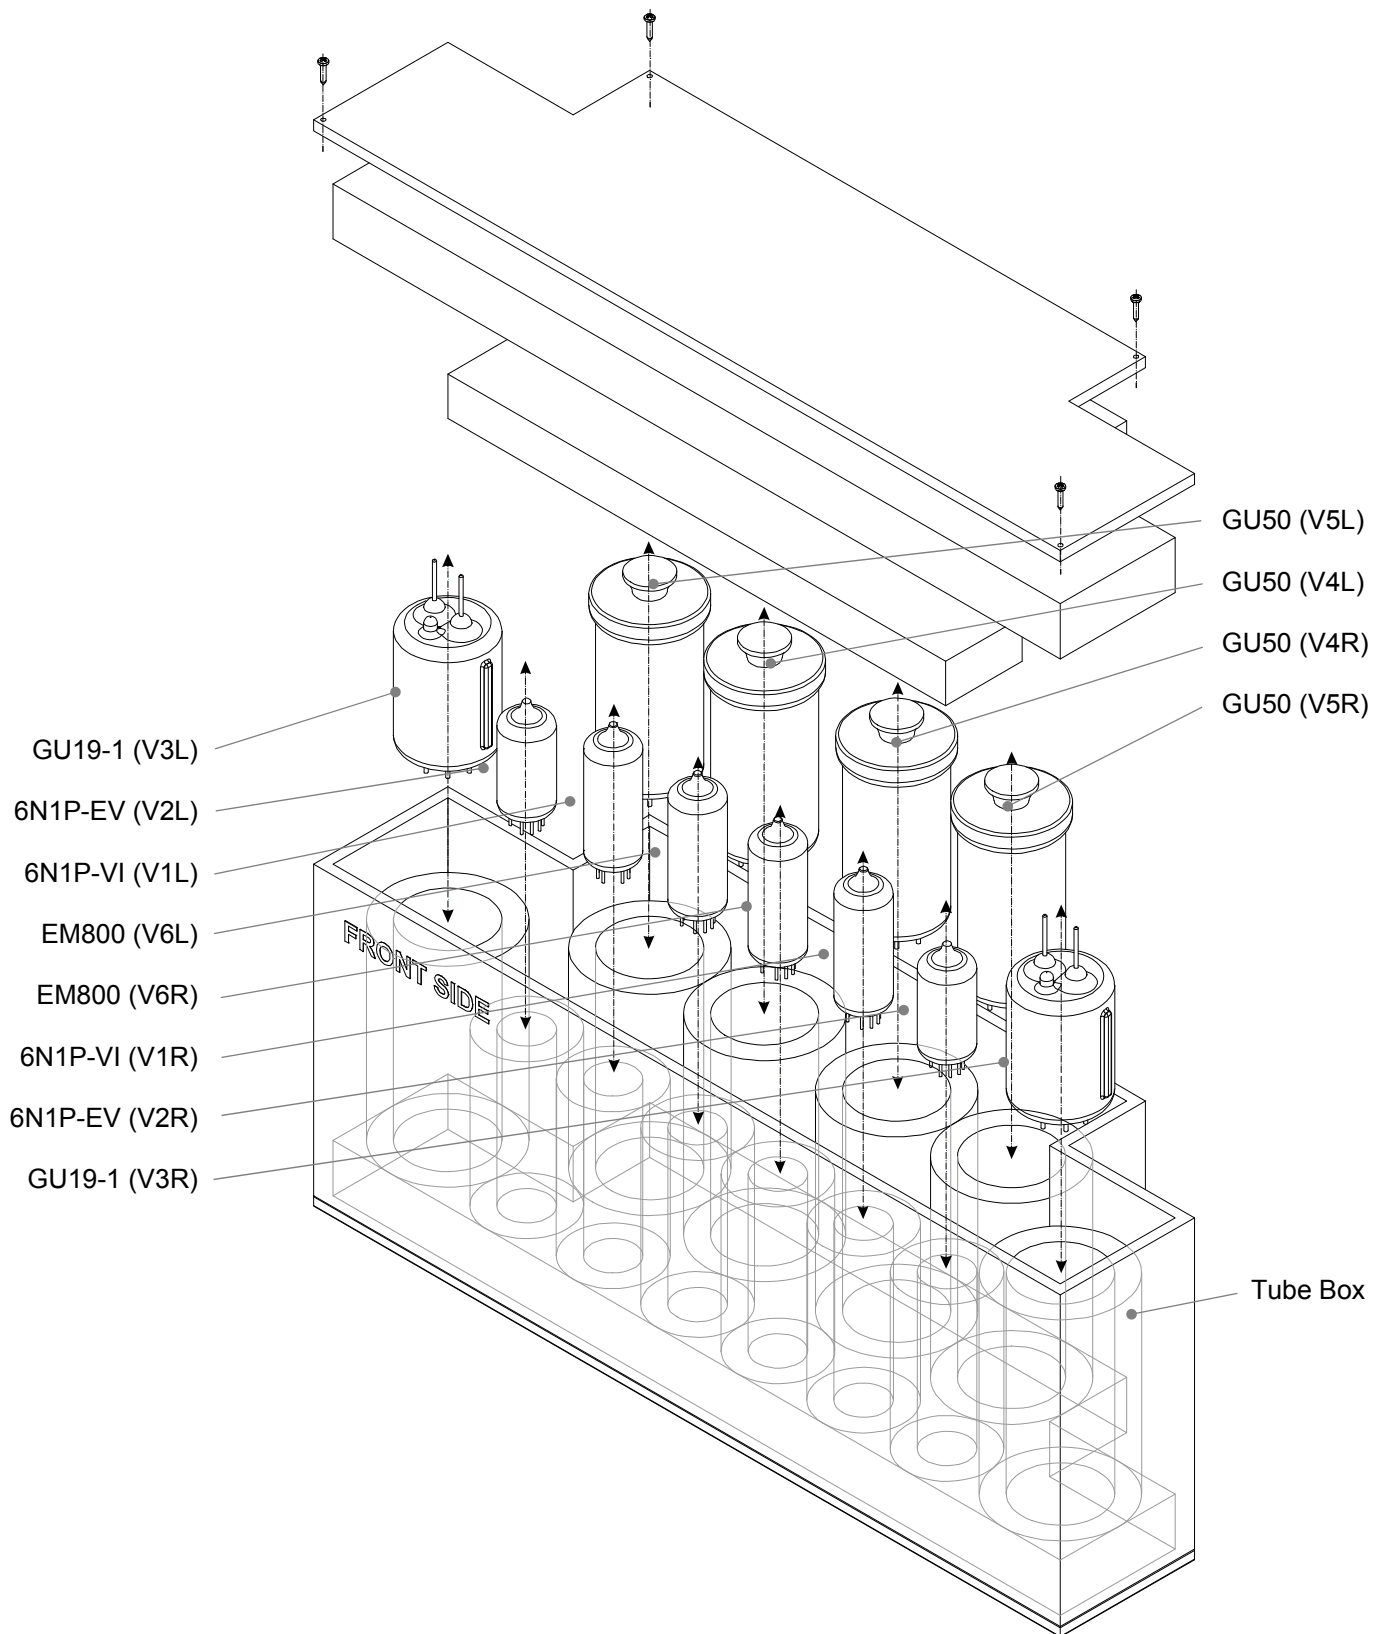

Figure 5
4. Orient the Tube Box so the "FRONT SIDE" is facing you. Using an appropriate screwdriver, remove four screws from the cover and open the Tube Box. Refer to figure 5